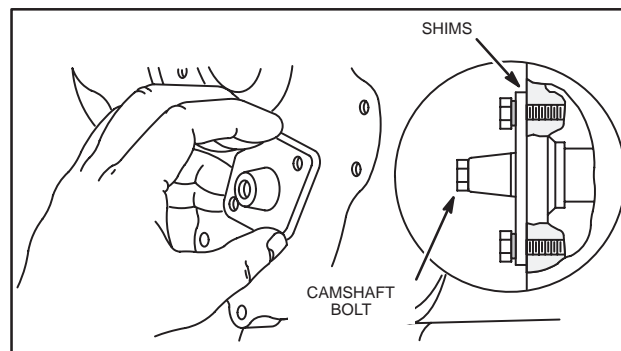

Fig. 872 – REMOVING CAM GEAR BEARING
4. Remove bolts from cam gear bearing, Fig. 872 and while holding cam gear, remove cam gear bearing and remove cam gear.
5. Remove camshaft, Fig. 872.